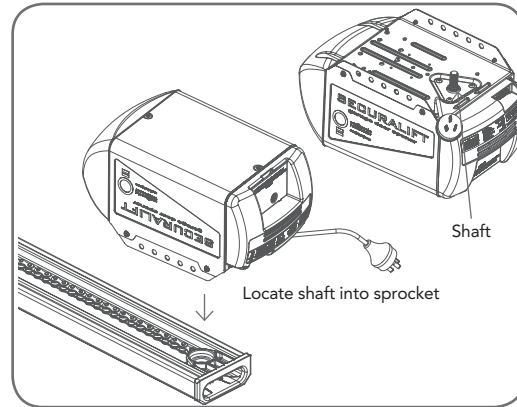

fig 09
- Locate and insert the shaft of drive unit into the C-Rail's sprocket (**Fig. 09**).